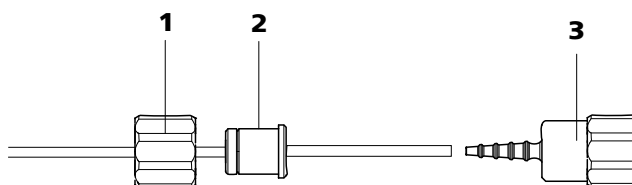

Figure 26 Install pump tubing connection without filter
- **Case B:** a 6.2744.160 pump tubing connection **without filter** (see figure 26, page 44).